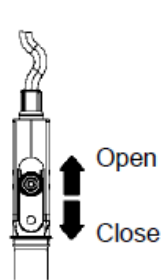

Figure 3
1. Open the internal solution filler port (fig. 3).